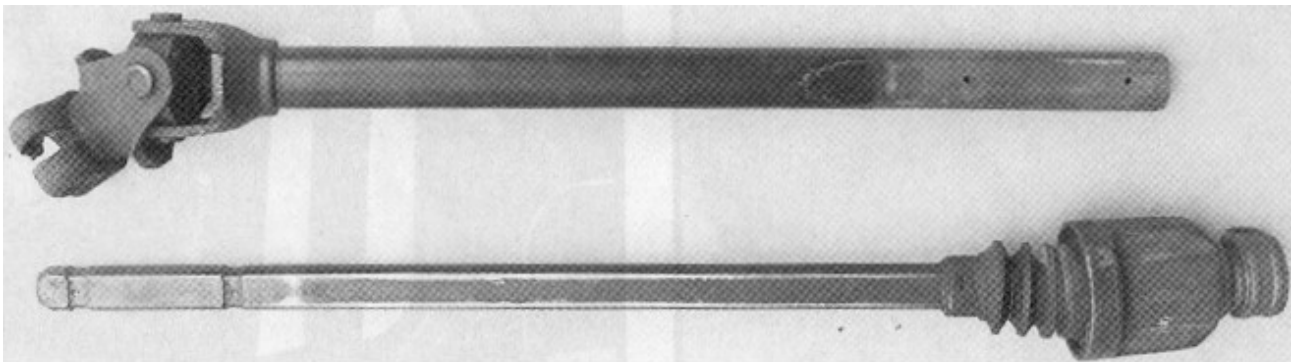

Figure 2
**1A:** The shaft is telescoping from the factory (so it can collapse in case of a collision). To make it gain length or extend the two halves must have the plastic locking device removed. The plastic must be melted out by heating the shafts. If you choose this method (**A**), remove the entire shaft from the Jeep™. Use a torch and slightly heat the two halves until the plastic is melted out and the two shafts will slide apart. Do this in a well ventilated area cause the meeting plastic stinks! Clean them with a wire brush, and paint them. Do not re-install the steering shaft at this time. See figure 2.